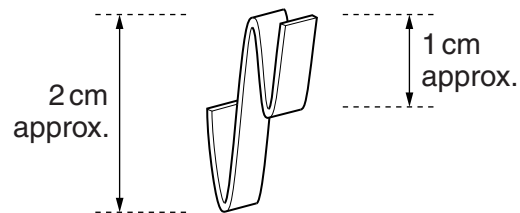

Fig. 1.3
- 4 The metal strip should be bent into a hook with the shape shown in Fig. 1.3.